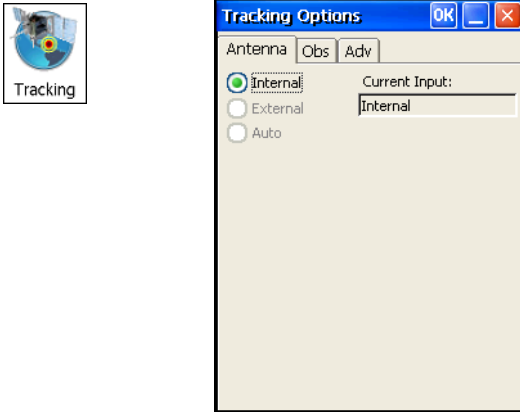

Figure 3-19. Set Antenna Usage
- Click the **Tracking** icon, and set the antenna type used with the connected receiver (Figure 3-19).
16. For RTK Rover receivers, click the **Status** icon (Figure 3-19 on page 3-21) to ensure the receiver obtains differential corrections. Usually, the receiver will start to output the coordinates of the antenna's phase center along with the solution type within 10–30 seconds. However, radios may take as long as 60 seconds to synchronize.